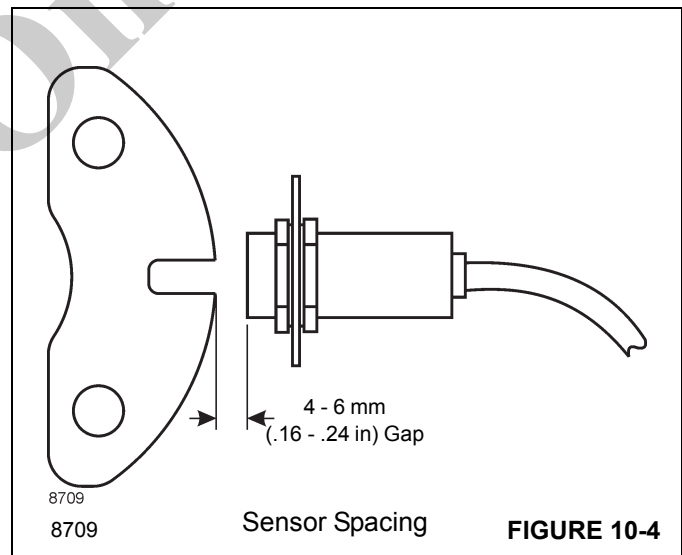

FIGURE 10-4
1. Align the sensor bracket on the axle steering knuckle with the sensor on the axle Figure 10-4.